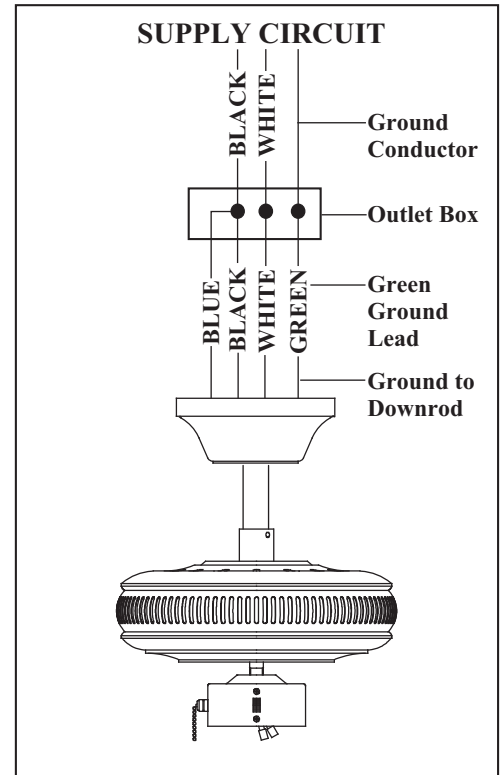

Figure 13
1. Connect the ground conductor of the 120V supply (this may be a bare wire or a wire with green colored insulation) to the green ground lead(s) of the fan (Figure 13). When using standard ceiling mounting, there are two green grounding leads; one from the ceiling mounting bracket and one from the ball/downrod assembly. When using "Close-to-Ceiling" mounting, there is only one green ground lead from the ceiling mounting bracket since the ball/downrod assembly is not used.
2. Connect the fan motor white wire to the supply white (neutral) wire using a wire nut. (Figure 13)
3. Connect the fan motor black wire to the supply black (hot) wire using a wire nut (Figure 13).